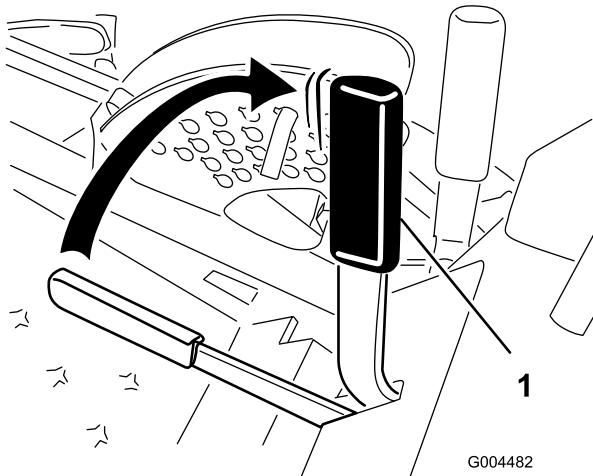

Figure 15
2. Pull up and back on the parking brake lever to set the parking brake (Figure 15). The parking brake lever should stay firmly in the engaged position.
Push forward and down on the parking brake lever to release the parking brake (Figure 15).